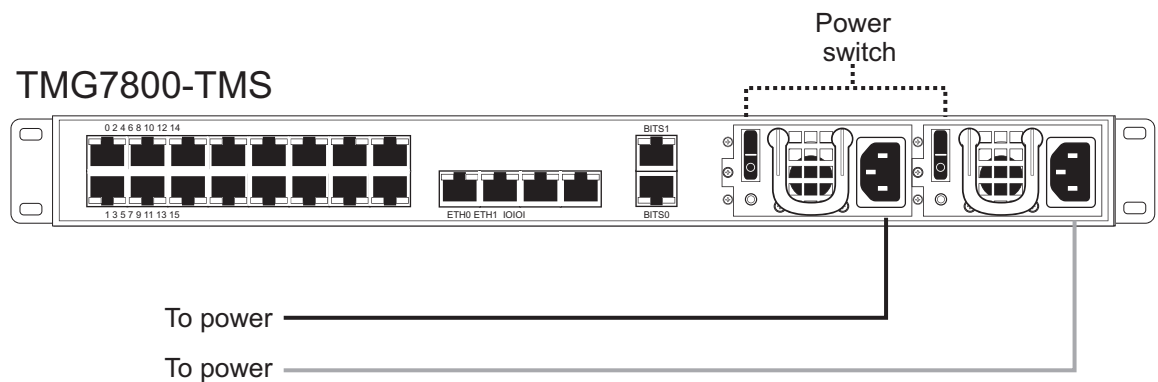

Figure 2.33 AC Power Connections
1. Connect the first power connector of each unit to the first power source. See Figure 2.33.